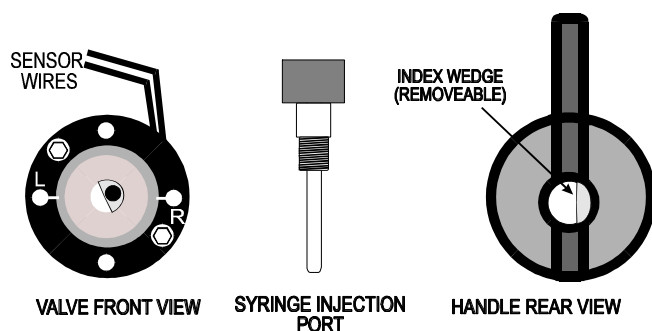

Figure 1
The DIV-1 Valve is made up of three primary parts (Figure 1):
4.2.2 Put the two screws with lockwashers through the small holes in the panel and screw them into the valve to secure it to the panel. Ensure the valve is orientated as shown in Figure 1.